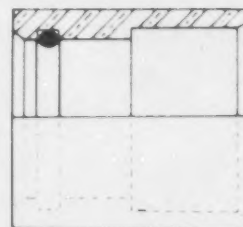

Figure 5-8. Duplex to Field-Cut Adapter
c) A duplex to field-cut adapter, shown in Figure 5-8, may also be used for repair, tie-in, and closure.